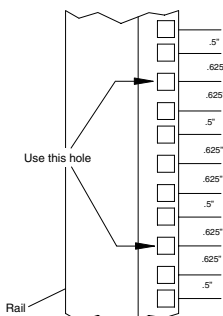

Figure 2
3. Install a second clip nut on the same rail, six holes down (see Figure 2).